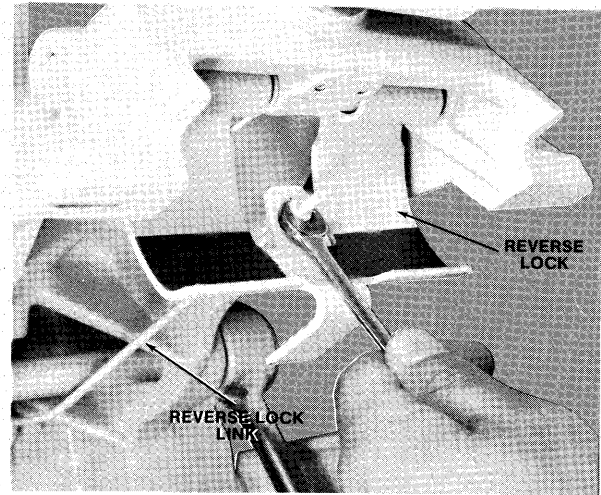

Figure 1—Removing Hex Stop Nut
- A. Remove hex stop nut securing reverse lock to reverse lock link as shown in figure 1.
- C. Align hole in reverse lock tab with reverse lock link and install link through hole in tab. Secure link to tab with hex stop nut. See figure 1.